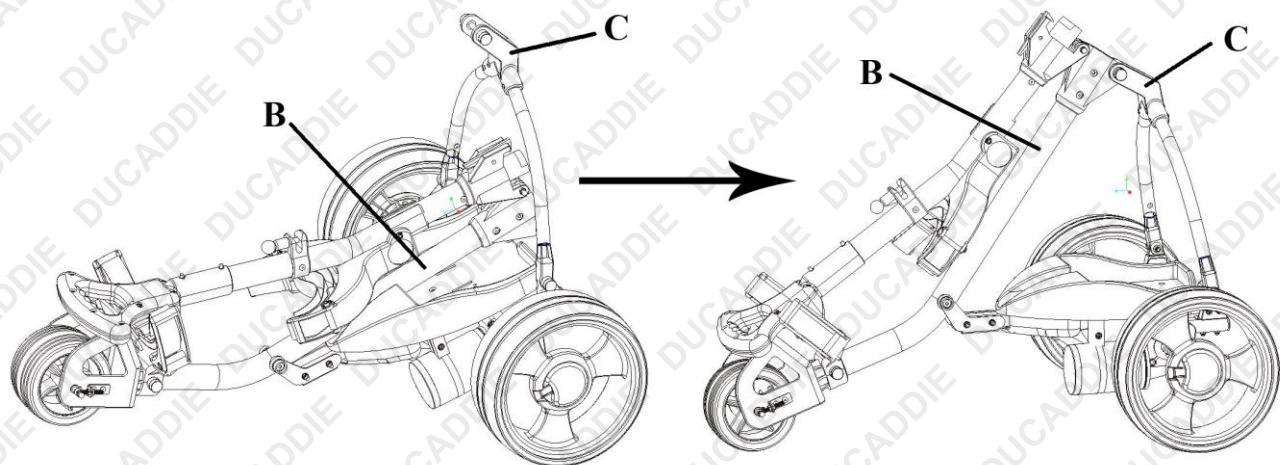

Fig 3
• Lift the main frame (B) upward to meet the support frame (C) as Fig.3 shown.